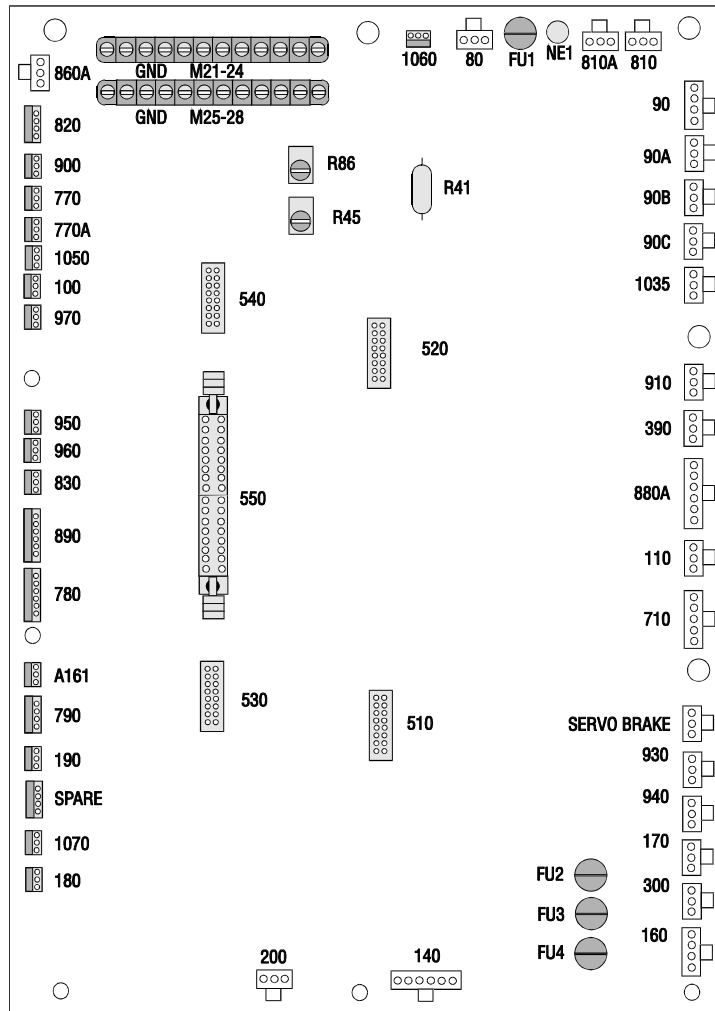

Fig. 3-6 I/O board.
4. Disconnect all leads to the Input/Output board and move aside for removal. Ensure all cables are properly labeled for reconnecting later. Fig. 3-6 shows all cable numbers and the locations on the I/O board.